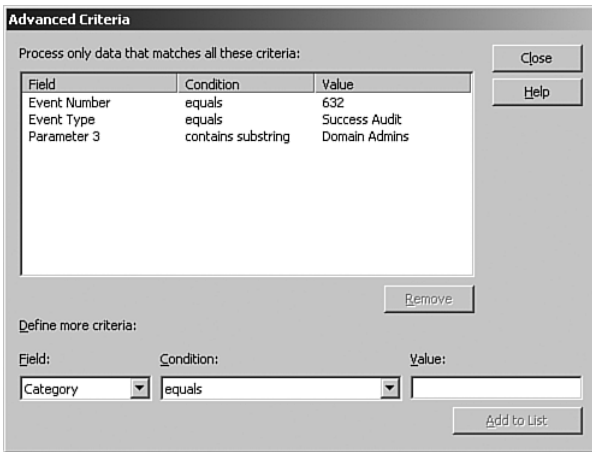

FIGURE 20.15 Advanced Criteria: Contains Substring.
4. On the Advanced Criteria screen, select Parameter 3 from the Field list. Select Contains Substring from the Condition list; then type **Domain Admins** in the value field. Click Add to List. Figure 20.15 shows an example of the Advanced Criteria screen. Close the Advanced Criteria screen. Click Next.